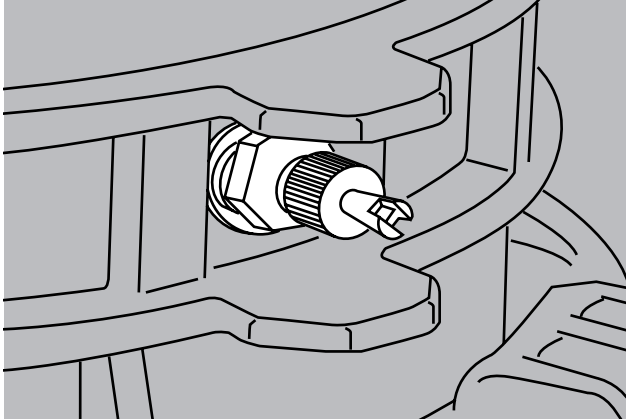

FIGURE 28
28. Via the fitted air valve, apply up to 700 milibars (10 psi) maximum of air pressure to the closure. Using a leak solution test all of the cable seals and end plate-to-closure seal for leaks. At the conclusion of the test, reduce the closure air content to zero. (Figure 28)